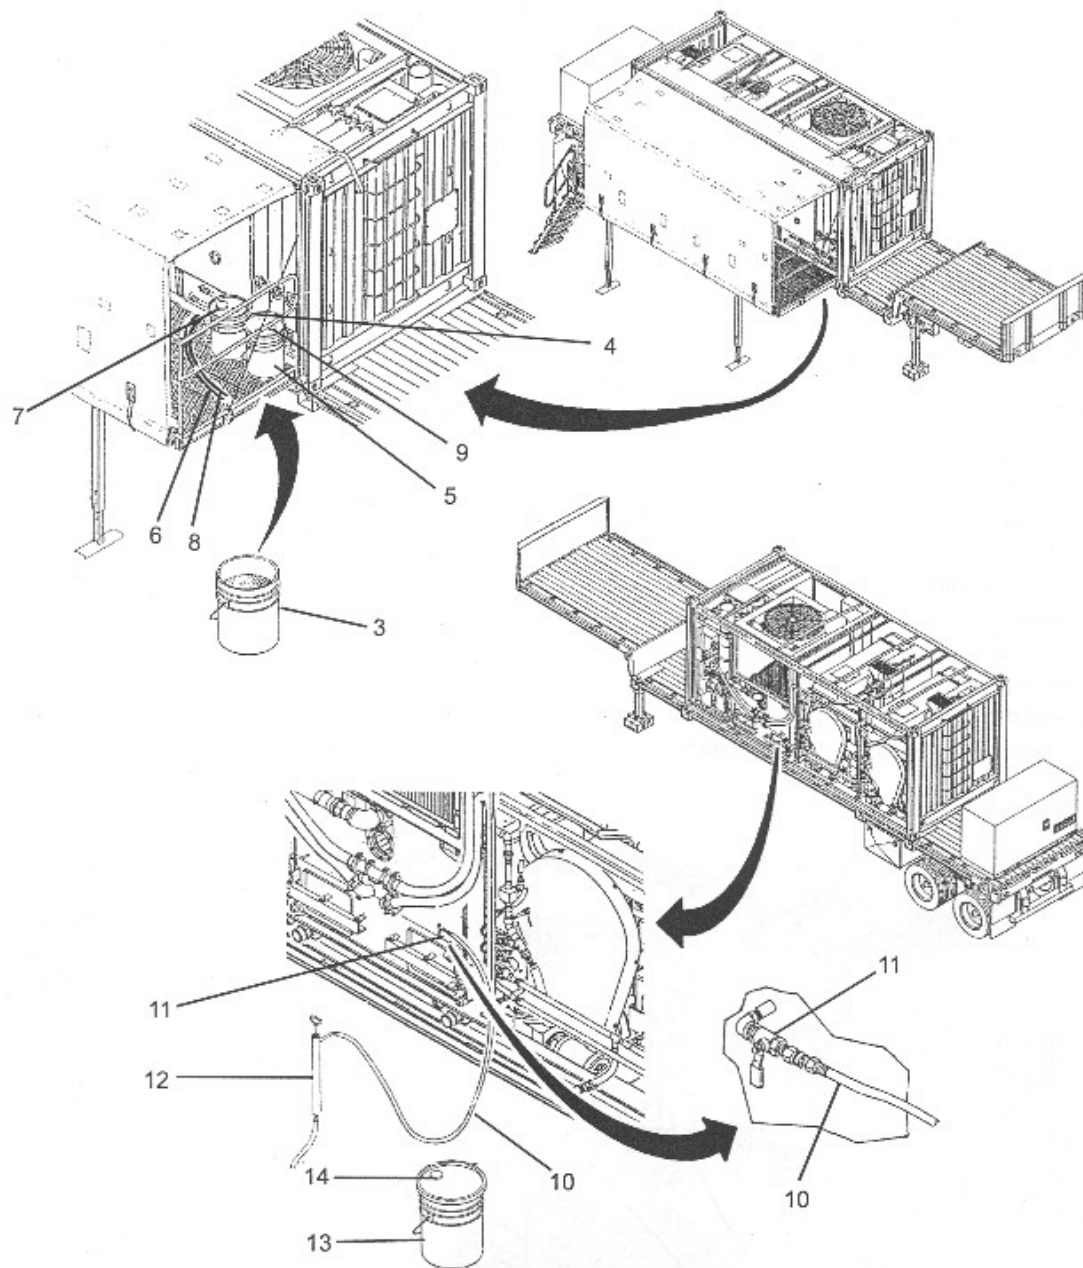

Figure 3-52
- (4) Place water container next to detergent container and anti-foam container.
- (5) Remove detergent supply tube from detergent container then place in water container.
- (6) Install cap onto detergent container.
- (7) Remove anti-foam supply tube from anti-foam container then place in water container.
- (8) Install cap onto anti-foam container.
- (9) Disconnect hose from manual valve.
- (10) Remove hand pump from anti-foam container.
- (11) Place hose into anti-foam container.
- (12) Stroke hand pump until all residual anti-foam is purged.
- (13) Install cap onto anti-foam container.
- (14) Make sure manual valve is closed. (See Figure 3-52)